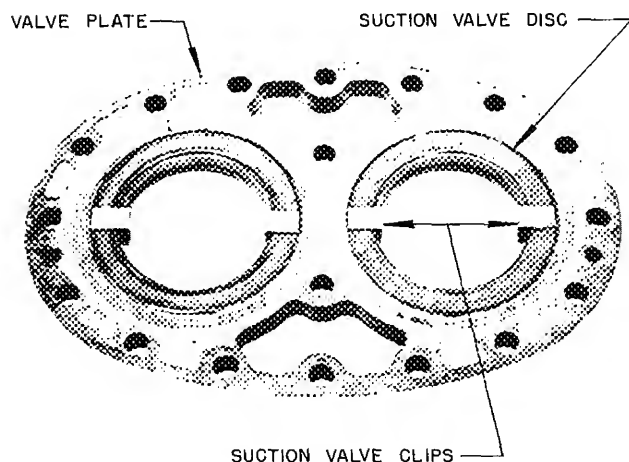

FIG. 20 - SUCTION VALVE ASSEMBLED TO VALVE PLATE WITH CLIPS
4. Slide the retainer clips in place as shown in Fig. 20. Locate the clips so they do not cover one of the unloader pins or springs.